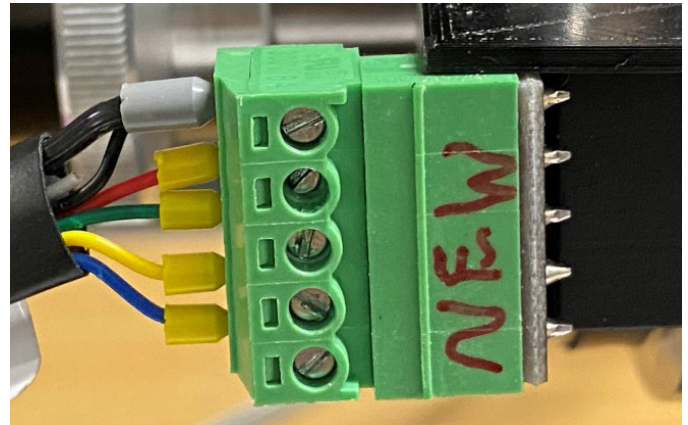

FIGURE 7
Make sure that all (5) legs of the male connector are inserted into all (5) of the female pockets as shown in Figure 7.